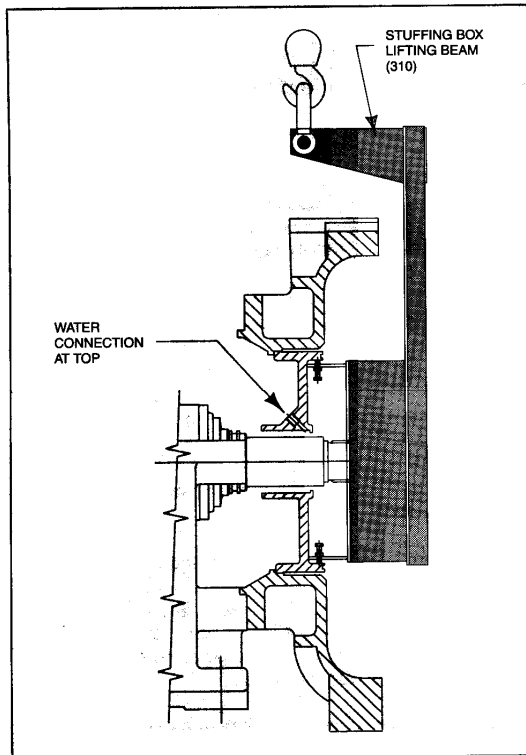

Figure 5-2 • Lifting Beam and Stuffing Box
6. Place the LANTERN RESTRICTOR (118) (small diameter out) freely over sleeve and push against the bearing housing.
7. Attach the STUFFING BOX LIFTING BEAM (310) to the STUFFING BOX (078) on opposite side of the lugs using the three jacking screws provided. Make sure that the water connection in the stuffing box is in line with the lifting beam as shown in *Figure 5-2*.
- a. Slide the LANTERN RESTRICTOR (118) inside the stuffing box, placing it against the retaining lip.
- b. Slide the first PACKING RING (111) against the lantern restrictor. Check to ensure the packing ring is of correct length to fill annulus completely.
- d. Assemble GLAND (044) halves over shaft sleeve with gland neck toward stuffing box, insert GLAND CLAMP BOLTS (126), and fully tighten. Push
1. Place STUFFING BOX (078) flat on bench (gland side up).
2. Place LANTERN RESTRICTOR (118) (small diameter down) in gland recess to rest on retaining lip.
3. Stand SHAFT SLEEVE (076) on end through lantern restrictor.
4. Fit PACKING RINGS (111). Packing rings must be of correct length to fill annulus, flattened separately, and joints must be staggered.
5. Assemble GLAND (044) halves, insert GLAND CLAMP BOLTS (126), and fully tighten. Place gland in stuffing box and push down to compress packing rings. Insert GLAND BOLTS (045) and just snug nuts sufficiently to hold shaft sleeve.
6. Fit O-RING (109) on shaft and slide up to labyrinth.
7. Join the three (3) segments of RELEASE COLLAR (239) with its socket head cap screws and tighten up securely. Complete Release Collar installation and disassembly instructions are covered on pages 5-6 and 5-7 of this manual. Fit release collar (flat face out) on shaft up to labyrinth.
8. Fit O-RING (109) in end of shaft sleeve.
9. Attach the STUFFING BOX LIFTING BEAM (310) to the STUFFING BOX (078) on opposite side of the lugs using the three jacking screws provided. Make sure that the water connection in the stuffing box is in line with the lifting beam as shown in *Figure 5-2*.